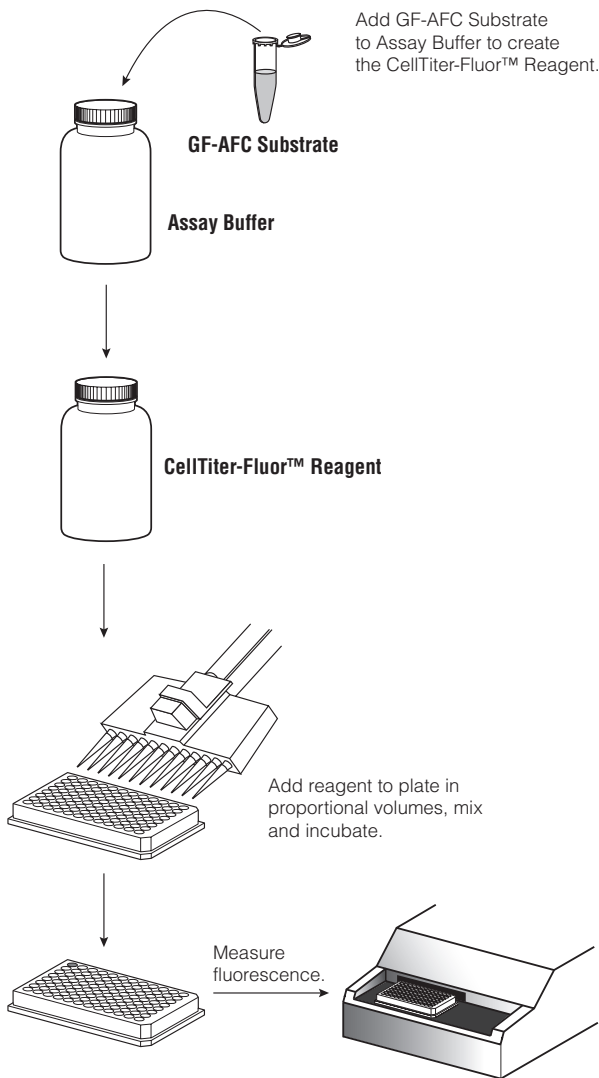

Figure 1. Schematic diagram of the CellTiter-Fluor™ Cell Viability Assay.
The CellTiter-Fluor™ Cell Viability Assay^(a) is a nonlytic, single-reagent-addition fluorescence assay that measures the relative number of live cells in a culture population after experimental manipulation (Figures 1 and 2). The CellTiter-Fluor™ Cell Viability Assay measures a conserved and constitutive protease activity within live cells and therefore serves as a marker of cell viability (1). Results obtained using the CellTiter-Fluor™ Cell Viability Assay correlate well with other established methods of determining cell viability (Figure 3). The live-cell protease activity is restricted to intact viable cells and is measured using a fluorogenic, cell-permeant, peptide substrate (glycyl-phenylalanyl-aminofluorocoumarin; GF-AFC). The substrate enters intact cells where it is cleaved by the live-cell protease activity to generate a fluorescent signal proportional to the number of living cells (Figure 4). This live-cell protease becomes inactive upon loss of cell membrane integrity and leakage into the surrounding culture medium.